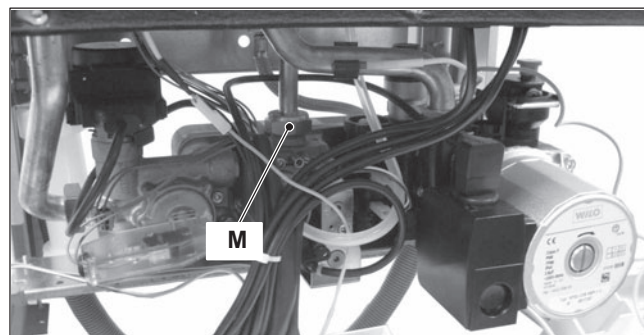

Figure 17.4
- 5 Unscrew the gas connector M (Figure 17.4)